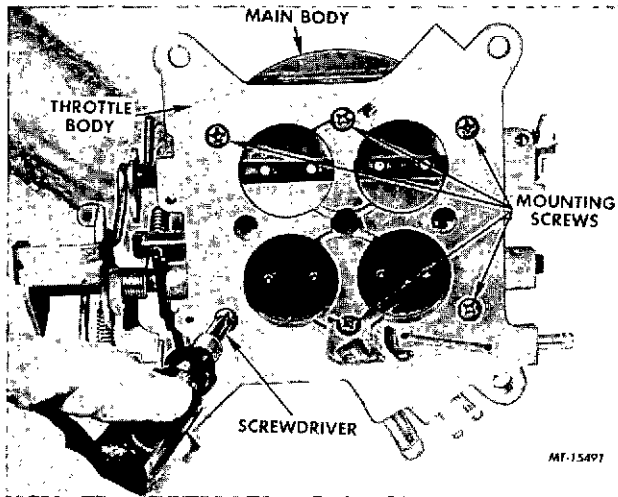

FIG. 42 Installing and Torquing Throttle Body Screws
2. Hold assembly together, invert assembly and install attaching screws. **CAUTION: Primary throttle bores must be on primary venturi side (choke side).** Install levers, springs and screws into throttle body. Torque attaching screws evenly in stages to 50 in. lb. (Figure 42).